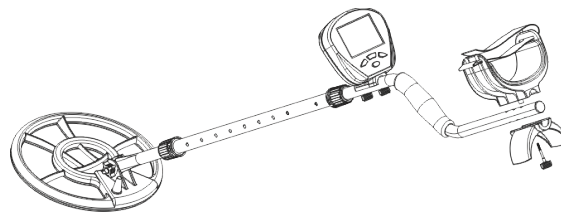

Fig.6
6. Adjust the position of the bracket arm. Loosen the screw under the bracket arm, making the bracket arm release up and down, remove the bracket arm and move it forward to a certain position, then tighten the screws (see Fig.6).